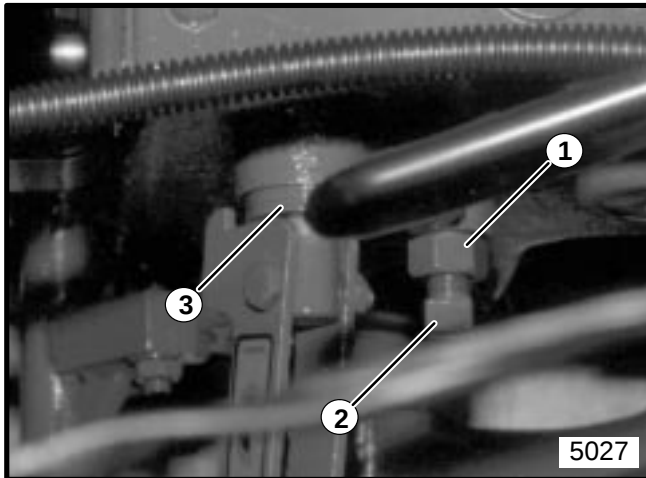

FIGURE 47
17. When installing gear onto shaft, keyways on the shaft must be centered between mounting holes of counter weights to ensure proper timing. See Figure 47.